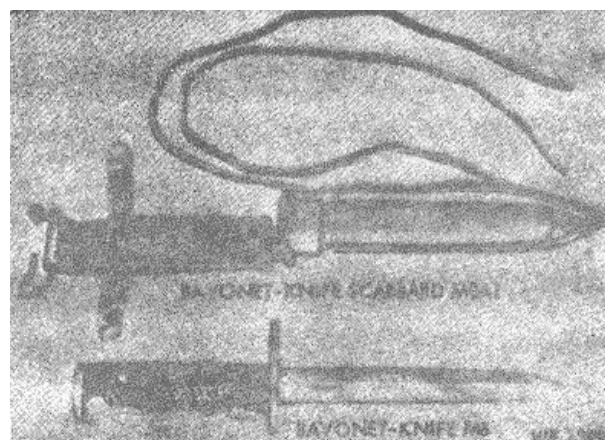

Figure 1-11. Bayonet-Knife M6 end Scabbard M8A1.
e. The Bayonet-Knife Scabbard, M8A1 (fig 1-11) serves as a carrier for the bayonet-knife when it is not installed to the rifle.
d. Bayonet-Knife, M6 (fig. 1-11) is used in conjunction with Rifle, M14 for close combat. It connects to the bayonet lug of the flash suppresser and a close loop in the handle encircles the flash suppresser.